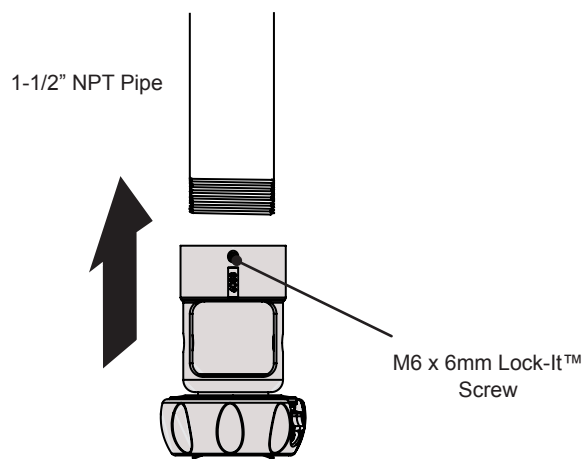

Figure 1
- 2 Attach the SpiroLock™ to the NPT pipe (Figure 1).
- ❶ Insert a small straw or toothpick into the threaded inserts found on the bottom or top of the projector.
- ❷ Use a pencil to mark the depth of the threaded insert on the small straw or toothpick.
- ❸ Mark the straw or toothpick 1/8" above the depth of the threaded insert, as shown in Figure 1.
- ❹ Insert the small straw or toothpick into the remaining threaded inserts to compare and verify their depth using the straw or toothpick's 1/8" allowance mark.
- ❺ Locate the correct diameter screw for the threaded insert.